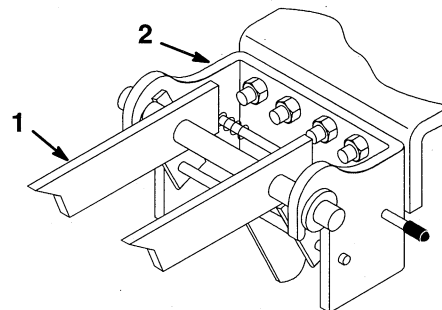

Figure 11
4. Slide snowthrower mounting frame into front hitch. Close and lock front hitch (Fig. 11).